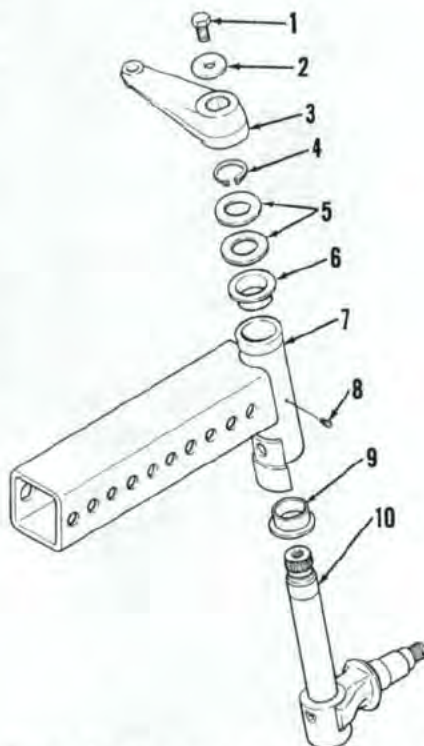

Fig. 2—Exploded view of steering spindle assembly typical of all models.
2. **R&R SPINDLES.** To remove spindle, lift and support front of tractor and remove wheel. Disconnect tie rod ball joint from steering arm (3—Fig. 2). Remove bolt (1) and washer (2) from arm (3). Note index punch marks on arm and shaft indicating location of tapered splines for left or right steering arm, then remove steering arm. Support spindle and remove snap ring (4) and shims (5), then remove spindle (10) from axle extension (7).
3. **SPINDLE BUSHINGS.** With spindles removed, spindle bushings (6 and 9—Fig. 2) can be removed using a suitable drift punch. New bushings are presized and should not require reaming if carefully installed. Press new bushings into axle ends until bushing flange seats against surface of axle ends.